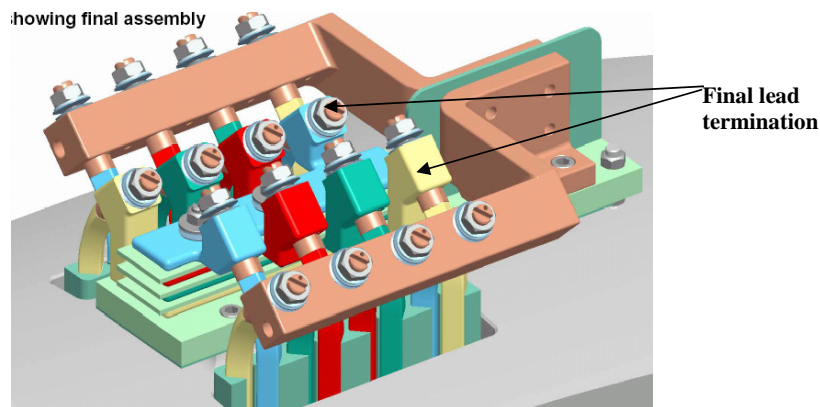

Figure 31- Final Terminal Connections
6.37.3 Secure all of the cable connectors to the terminal blocks. Torque all of the connectors and lock hardware in position. [Figure 31- Final Terminal Connections]